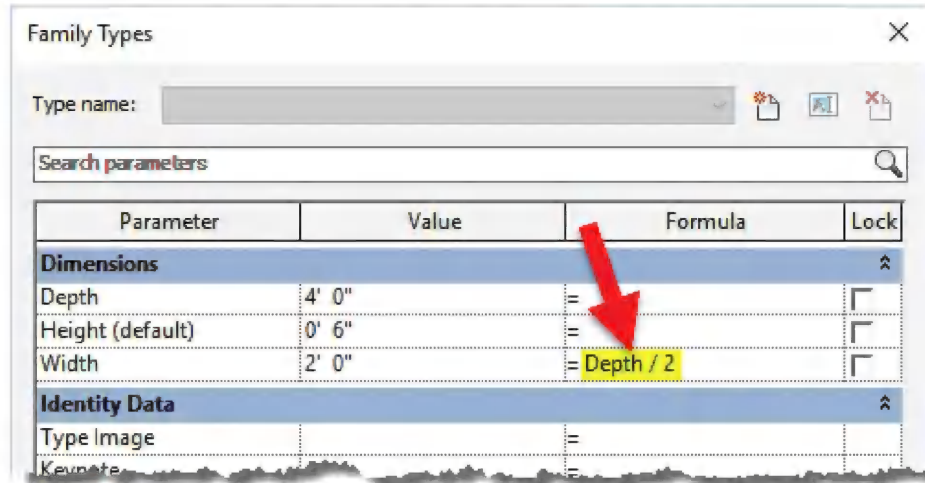

FIGURE 15-4.3 Adding formula to control the width
- For the *Width* parameter, in the *Formula* column, enter the following: **Depth/2** (see Figure 15-4.3).
Notice the Width *Value* is now half of the Depth, i.e., 2'-0" (see Figure 15-4.3).